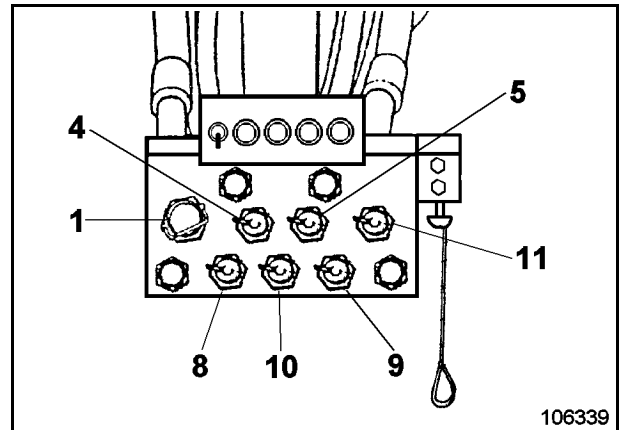

Fig. 3-44:
- Fuel can also be filled into both fuel tanks through the service station (1, Fig. 3-44:).